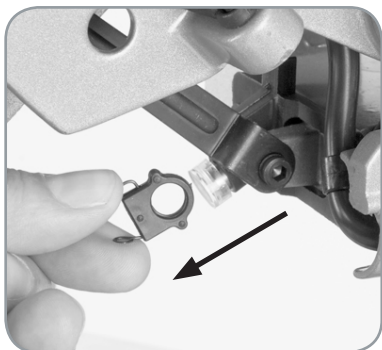

Fig. 37
- Remove the lower guard operating arm retaining clip. (Fig. 37) Release the guard operating arm from its pivot.